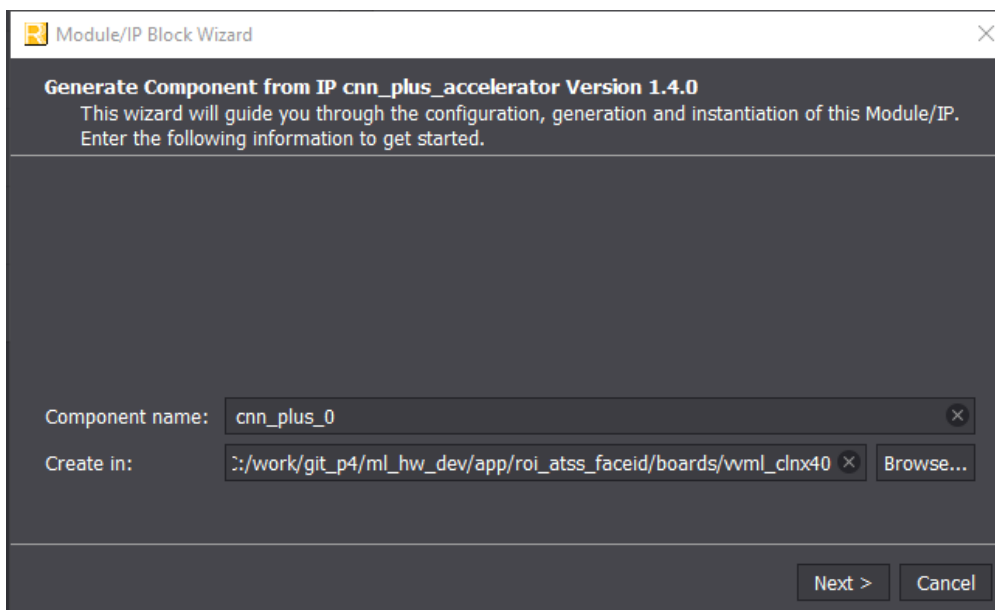
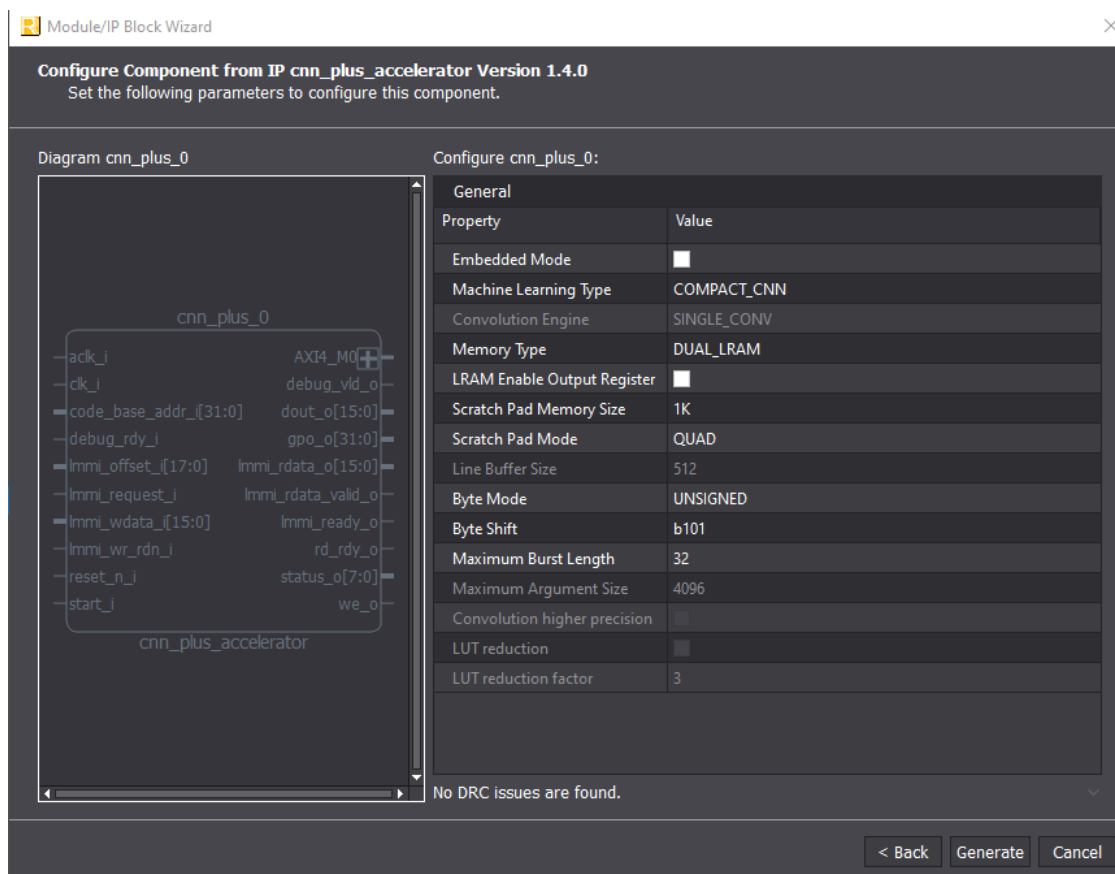
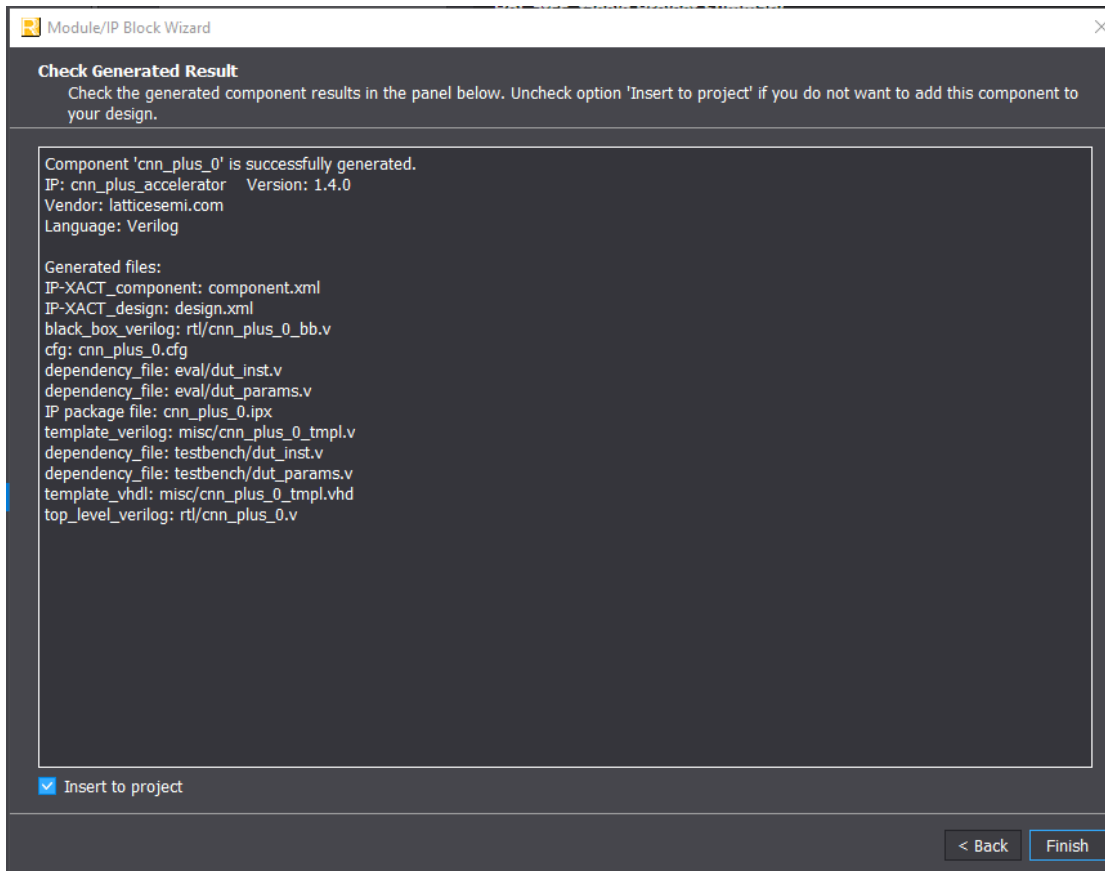

Figure 3.1. Module/IP Block Wizard
Figure 3.2. Configure User Interface of CNN Plus Accelerator IP Core
Figure 3.3. Check Generating Result
2. In the **IP Catalog** tab, double-click on **CNN_Plus_Accelerator** under **IP, DSP** category. The **Module/IP Block Wizard** opens as shown in Figure 3.1. Enter values in the **Component name** and the **Create in** fields and click **Next**.
- In the module's dialog box of the **Module/IP Block Wizard** window, customize the selected CNN Plus Accelerator IP Core using drop-down menus and check boxes. As a sample configuration, see Figure 3.2. For configuration options, see the Attribute Summary section.
- Click **Generate**. The **Check Generating Result** dialog box opens, showing design block messages and results as shown in Figure 3.3.
- Click the **Finish** button. All the generated files are placed under the directory paths in the **Create in** and the **Component name** fields shown in Figure 3.1.
Core Generation, Simulation, and Validation	Updated Figure 3.1 , Figure 3.2 , and Figure 3.3 .